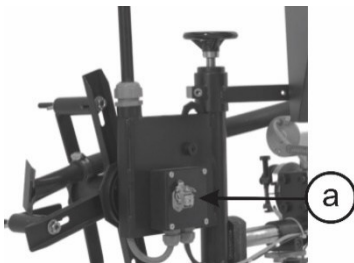

Figure 3.1 SAW Power supply connection
- Connect the communication cable between the SAW power source and the tractor. The connection point on the tractor is shown in Figure 3.1-a.